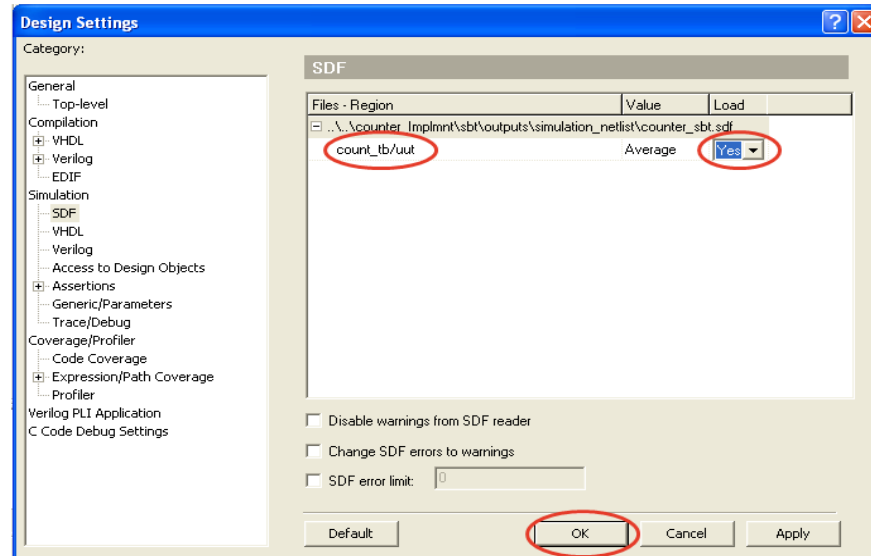

Figure 10-21 : Set SDF Options.
9. Select Design→Settings to open up the “Design Settings” Wizard. Select SDF in the category panel. Set the Region to “count_tb/uut” and change the Load option to “Yes” as shown in Figure 10-21. The SDF value selection can be set to “Minimal”, “Average” and “Maximal”. The value is set to “Average” by default. Click on “OK” icon to close the wizard.